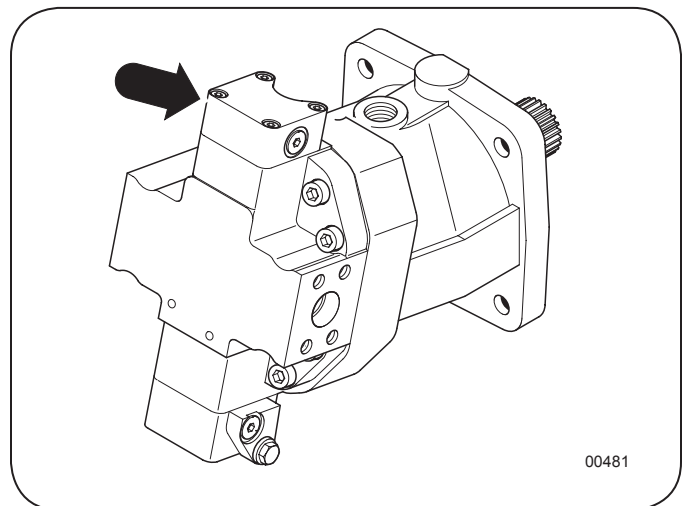

Figure 19: Wheel Drive Motor Port "X"
8. Disconnect the motor shift line where it enters port "X". See Figure 19. Plug the line and leave the fitting open to atmosphere.